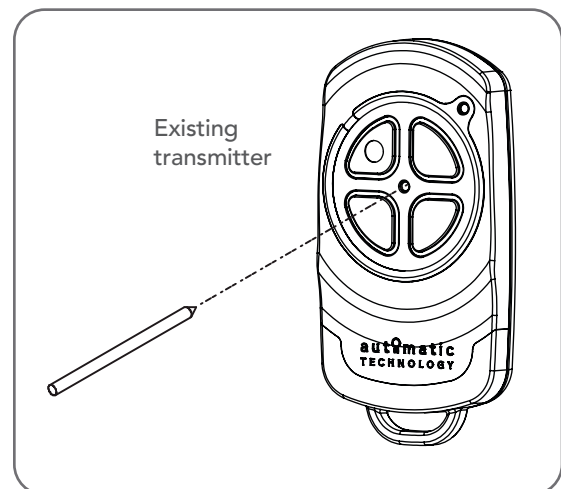

Fig 6.7.2
- Use a small pin / pen to press and hold through the Coding Hole of the existing transmitter for 2 seconds (**Fig. 6.7.2**).